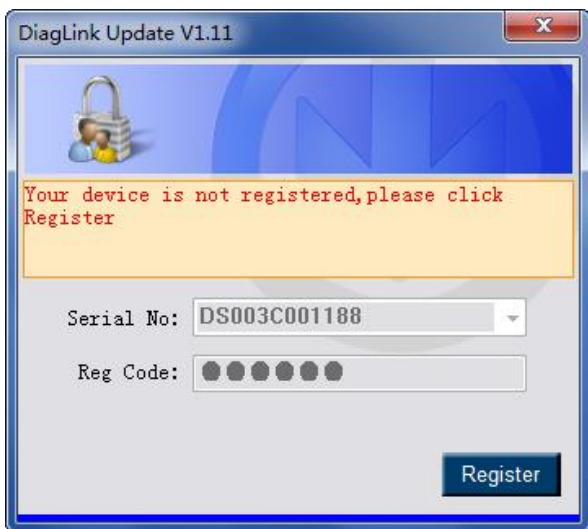

Figure 10.2
- Connect DiagLink to your computer through USB to power up the scan tool, and wait for the Main screen to appear. Use the **UP/DOWN** scroll button and **LEFT/RIGHT** scroll button to select **Update** (Figure 10.1), and press the **OK** button. The screen will show as Figure 10.2.
- 4) Run the Autel Update option in Autel PC Suite software. Wait for the Log In window to pop up (Figure 10.2).